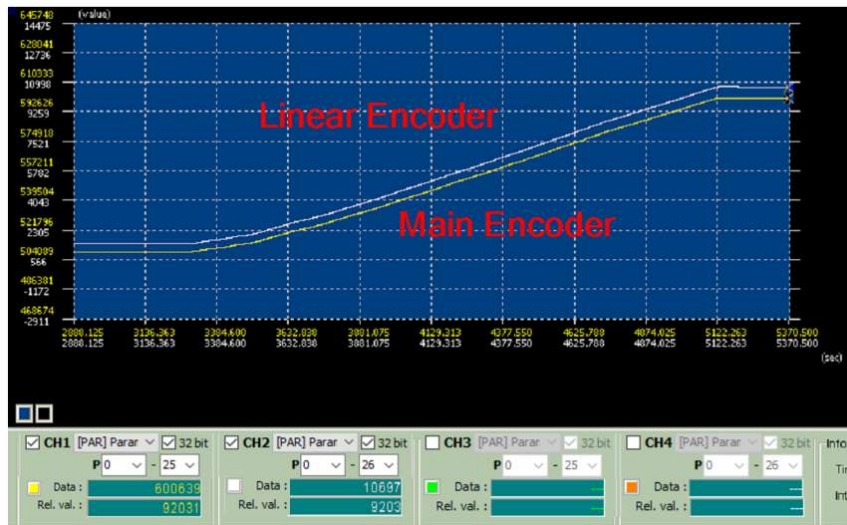
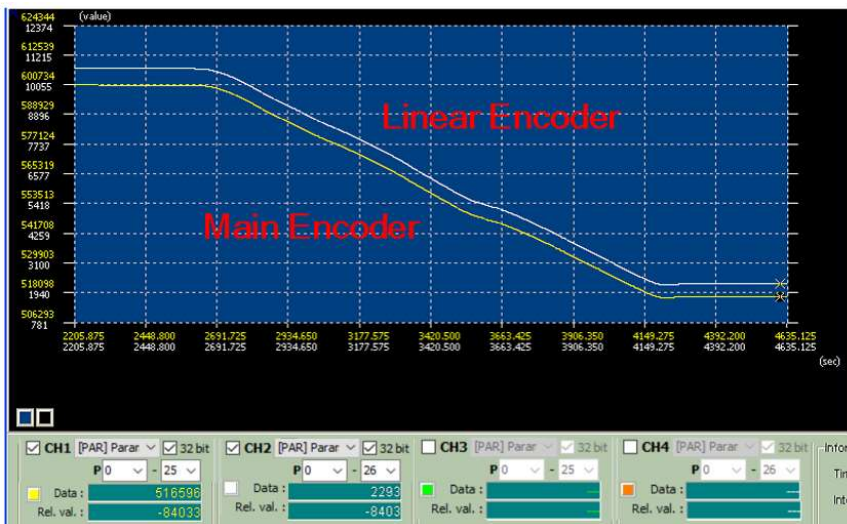

Fig.7 – Same pulse trend (positive)
Fig.8 – Same pulse trend (negative)
- (3) Open the scope, set CH1 and CH2 as [PAR]Parameters and tick the box in front of the *32 bit* to monitor P0-25 & P0-26.
- (4) **Without activating the full-closed loop**, servo ON the drive, use JOG function to move the motor slowly towards one direction and make sure there will be no collision, then monitor the scope. If the waveform is like Fig.7 or Fig.8, it means the pulse trend of both encoders is the same and it's *correct*, then there's no need to adjust P1-74.Z.